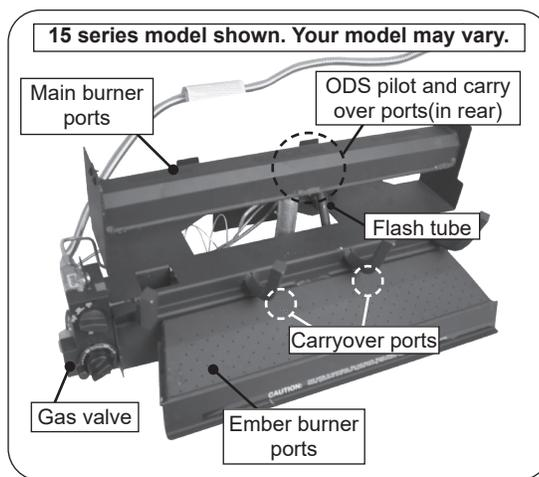

Fig. 29-1 Burner assembly
A. It is imperative that all control components and compartments, burners, and circulating air passageways of the appliance be kept clean and free of all obstructions. Excessive lint can build up on this unit from carpeting, bedding material, pet hairs, or other particles in the air. The ODS pilot is especially sensitive to a dirty environment and will not function properly if dirty. Refer to Fig. 29-1 and the CLEANING AND SERVICING THE ODS PILOT section to make certain all air openings are clean and free of obstructions, including:
- The flash tube and its corresponding carryover ports (see Fig. 29-1). Obstructions in or around the flash tube may result in the ember burner not lighting and/or an intermittent popping noise from the flash tube.
- All of the ports on both the bottom ember burner and the top main burner. (See Fig. 29-1.)